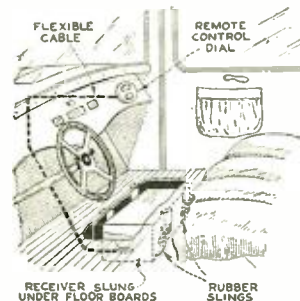

Fig. 4—This shows the location of the remote control, set and flexible shaft
Fig. 4—Floor plan of two of the three halls constituting the Remy Dancing School, including the street entrance, where a dynamic speaker is mounted for publicity purposes
7). In a sedan or touring car having an unusually long hood, ample space for locating the receiver will be found directly forward of the dash, under the hood. In others, space may be found under the floor-boards (Fig. 4) or even under the seat. Still another place for the set is on the running board, where it may be placed in a metal box, strong enough to serve as a step if necessary.